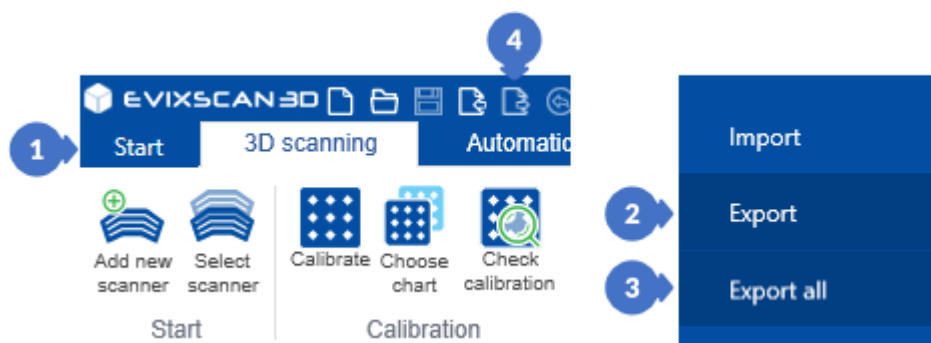

Figure 197. Export files
The second method of exporting scans is to use the *Export all* (3) (Figure 197) option which does not require selecting the scans as it exports the entire content of the project to the selected location. Clicking on *Export all* (3) opens the same window as in the case of the *Export* button (2).
The third way is to click on the *Export button* (4) (Figure 197) with the card icon with an arrow pointing outwards from the quick access bar. This button works exactly like the *Export* button (2) from the *Start* menu.